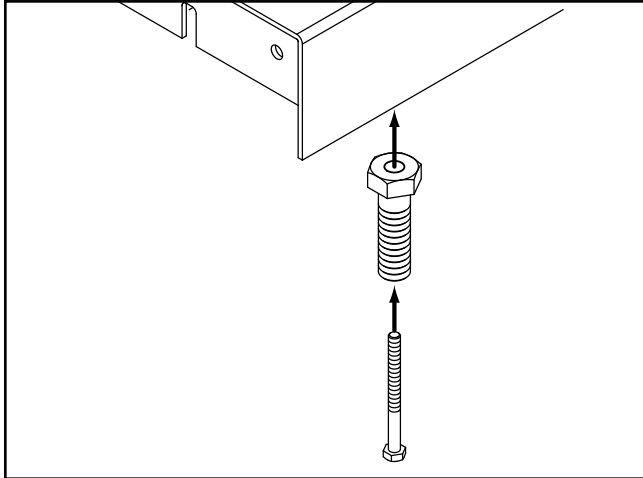

Figure 4. Installing the hollow hex bolts.
1. Thread the M6-1 x 70 hex bolts through the center of the hollow hex bolts and into the holes in the bottom of the extension table as shown in **Figure 4**.